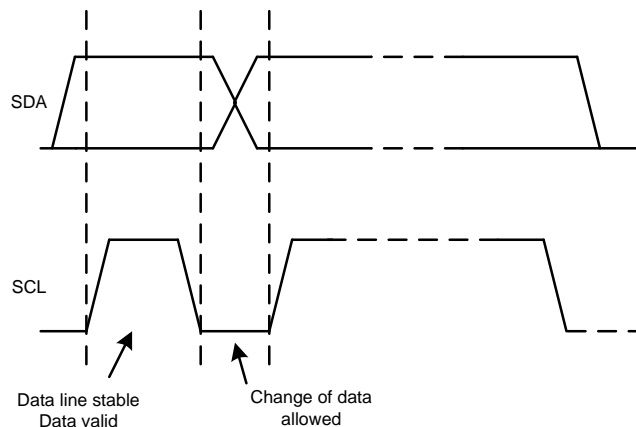

Figure 8. Bit Transfer on the I2C Bus
2. The master then generates the SCL pulses, and transmits the 7-bit address and the read/write direction bit (R/W) on the SDA line. During all transmissions, the master makes sure that data are valid. A valid data condition requires the SDA line to be stable during the entire high period of the clock pulse, as shown in Figure 8. All devices recognize the address sent by the master and compare it to their internal fixed addresses. Only the slave device with a matching address generates an acknowledge by pulling the SDA line low during the entire high period of the 9th SCL cycle, as shown in Figure 6 by pulling the SDA line low during the entire high period of the 9th SCL cycle. Upon detecting this acknowledge, the master knows the communication link with a slave has been established.